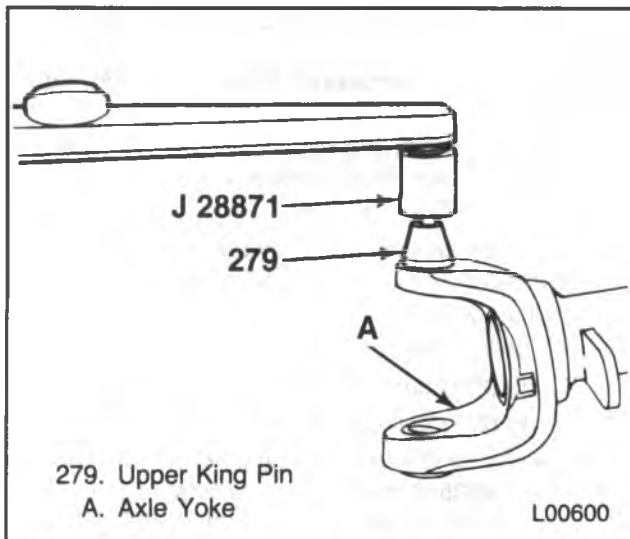

Figure 67 — Installing the Upper King Pin
4. Upper king pin (279) using J 28871 (figure 67).